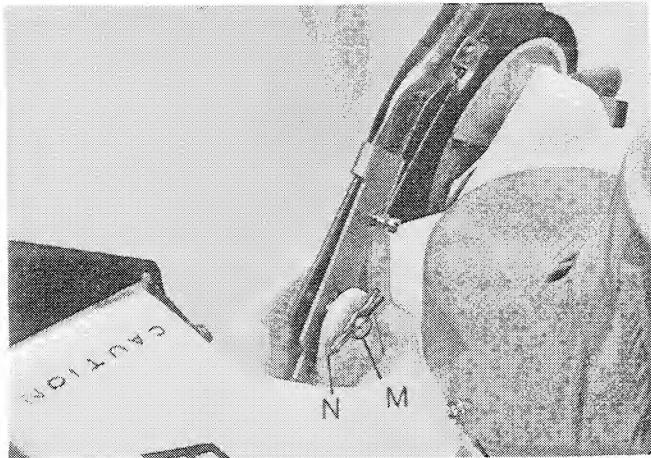
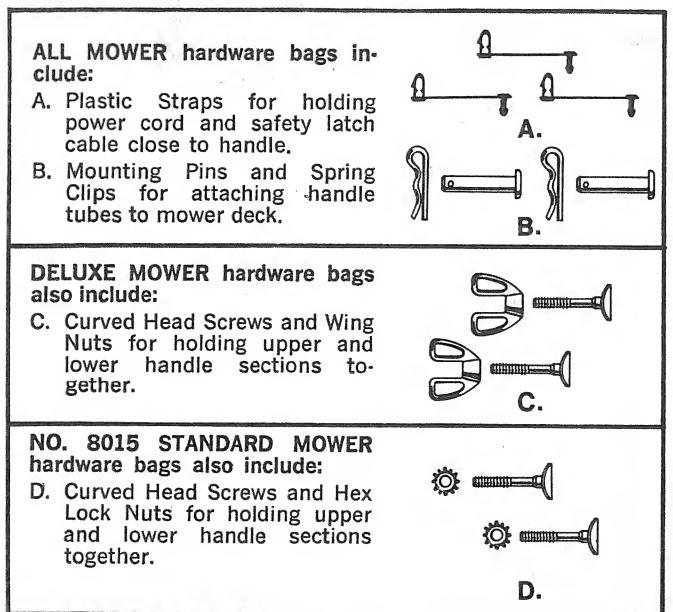
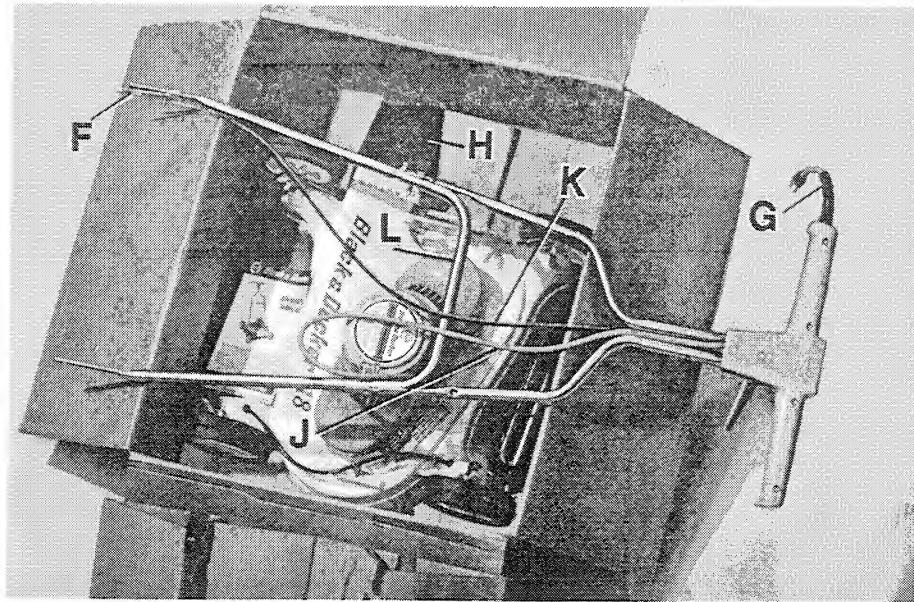
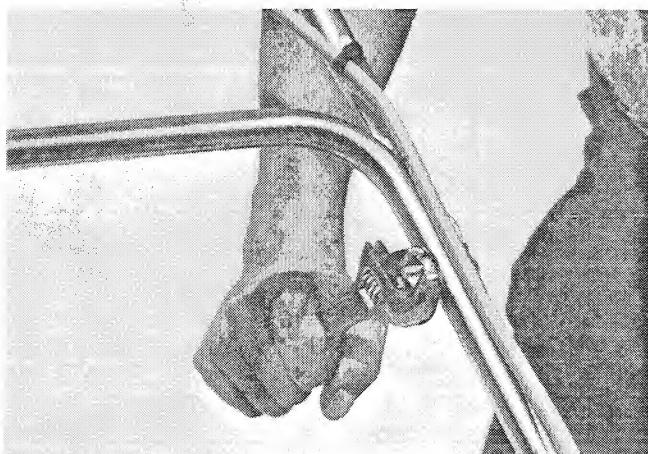

FIGURE 5
FIGURE 1
FIGURE 2
FIGURE 4
(3) Attach handle to mower deck with 2 mounting pins "M" (Figure 5) and 2 spring clips "N". Pins and clips are item "B" in Figure 1.
- (1) Open carton and remove cardboard fillers and 2 plastic hardware bags (contents shown in Figure 1).
- (2) Without removing mower from carton, fasten upper and lower handle sections together as shown in Figures 2 & 3, with curved head bolts and wing nuts (Item "C", Figure 1). No. 8015 MOWER ONLY — Use curved head bolts & hex nuts (Item "D", Figure 1) for handle assembly (Figure 4). This handle is not designed to fold for storage.
Handle must be assembled so that the sliding safety-latch "F" (Figure 2), and the power cord plug "G" are on the same side as the grass discharge opening "H". Place power cord "J" and safety latch cable "K" OVER handle cross-member "L".